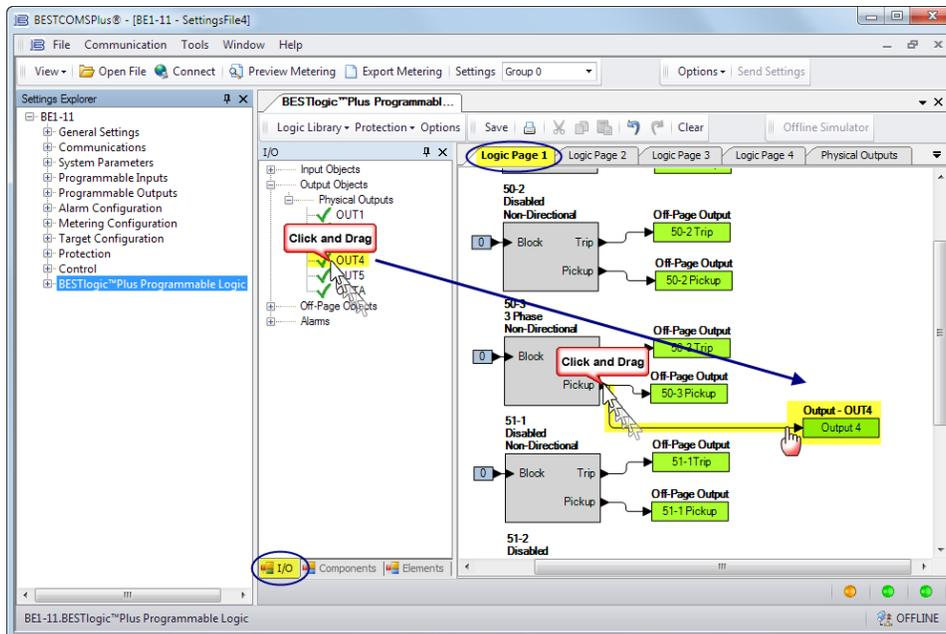

Figure 15. BESTlogicPlus Programming OUT4
Step 10: In this step, the Pickup output of the 50-3 element is connected to Output 4. When the Pickup output of the 50-3 element is true, the label of Output 4 is displayed in the fault report and/or sequence of events report. The label is named in Step 12. Click the Logic Page 1 tab and then click the I/O tab at the bottom. Expand Output Objects and then Physical Outputs. Click and drag OUT4 over to the logic diagram. Click on the Pickup output of the 50-3 element and drag it to the input of OUT4 to make a connection. Refer to Figure 15.